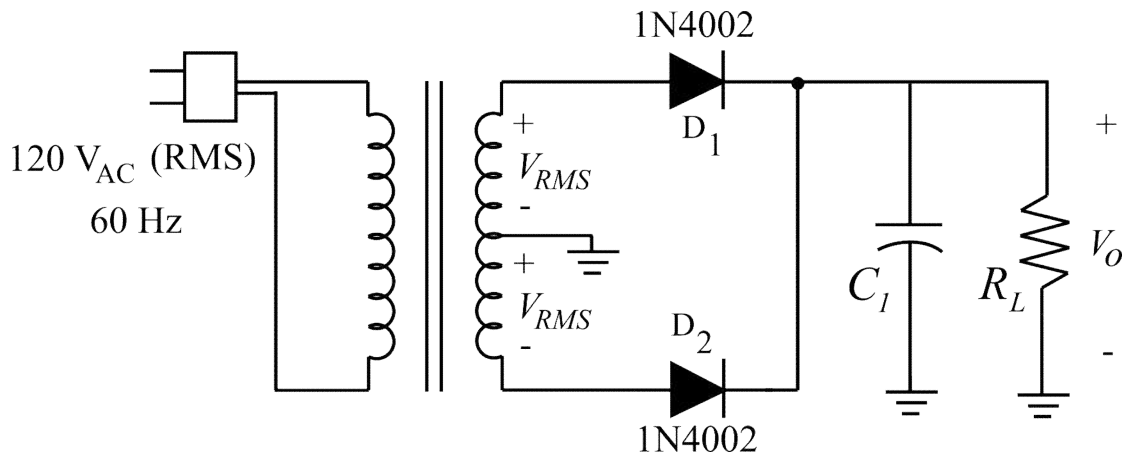

Figure 6: Schematic of the power supply to be designed.
2. The circuit shown in Figure 6 demonstrates the full-wave rectifier design for this part of the lab. The rectifier/filter circuit design will require approximately 16 VDC @ 130 mA output capability, with a peak-to-peak voltage ripple less than 0.5 V. It is shown in the textbook that for a full-wave rectifier the ripple voltage is [1]
2. Construct the circuit of Figure 6. Have your lab partner(s) check over the circuit to make sure the connections are right. Energize the circuit. Using the oscilloscope, observe the output voltage. **Sketch the output waveform, and measure both the peak-to-peak ripple voltage and the dc average voltage.**